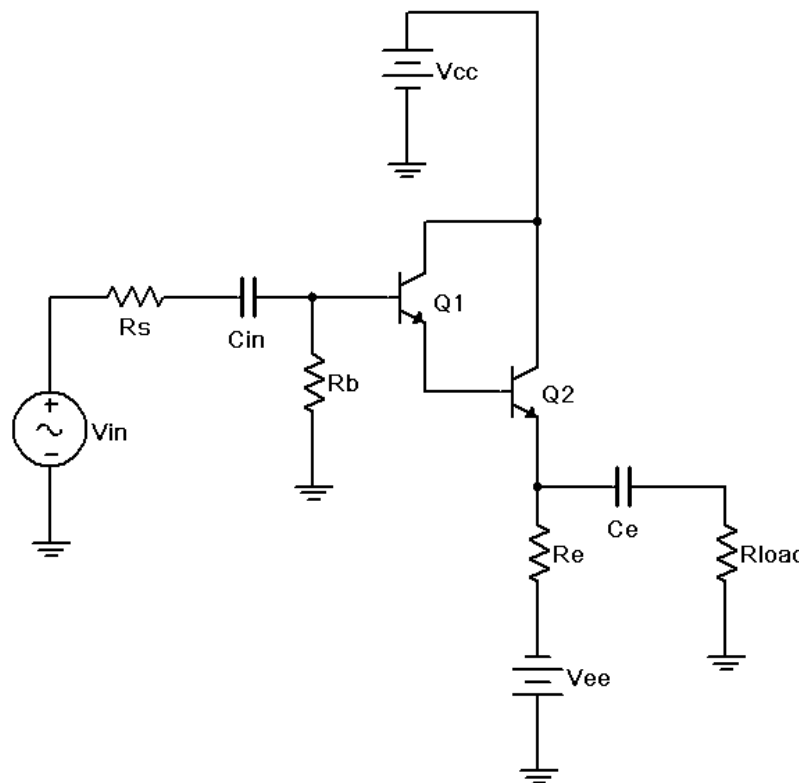

Figure 1
1. Consider the circuit of Figure 1 using $V_{cc} = 5$ volts, $V_{ee} = -12$ volts, $R_s = 22\text{ k}\Omega$, $R_b = 470\text{ k}\Omega$, $R_e = 1\text{ k}\Omega$, $R_{load} = 220\text{ }\Omega$, $C_{in} = 10\text{ }\mu\text{F}$ and $C_e = 470\text{ }\mu\text{F}$. Using the approximation of a negligible DC base voltage, determine the DC collector current and r'_e , and record these in Table 1. Using the r'_e , calculate the expected Z_{in} , $Z_{in(base)}$, Z_{out} and A_v . Record these in Table 2. If a transistor curve tracer or beta checker is not available to get an approximate value of beta for the transistors, estimate the pair at 10,000.
2. Build the circuit of Figure 1 using $V_{cc} = 5$ volts, $V_{ee} = -12$ volts, $R_s = 22\text{ k}\Omega$, $R_b = 470\text{ k}\Omega$, $R_e = 1\text{ k}\Omega$, $R_{load} = 220\text{ }\Omega$, $C_{in} = 10\text{ }\mu\text{F}$ and $C_e = 470\text{ }\mu\text{F}$. Disconnect the signal source and check the DC transistor voltages to ensure that the circuit is biased correctly. (Note: The base should be close to zero while the emitter will be two V_{BE} drops less, or about -1.4 VDC .)